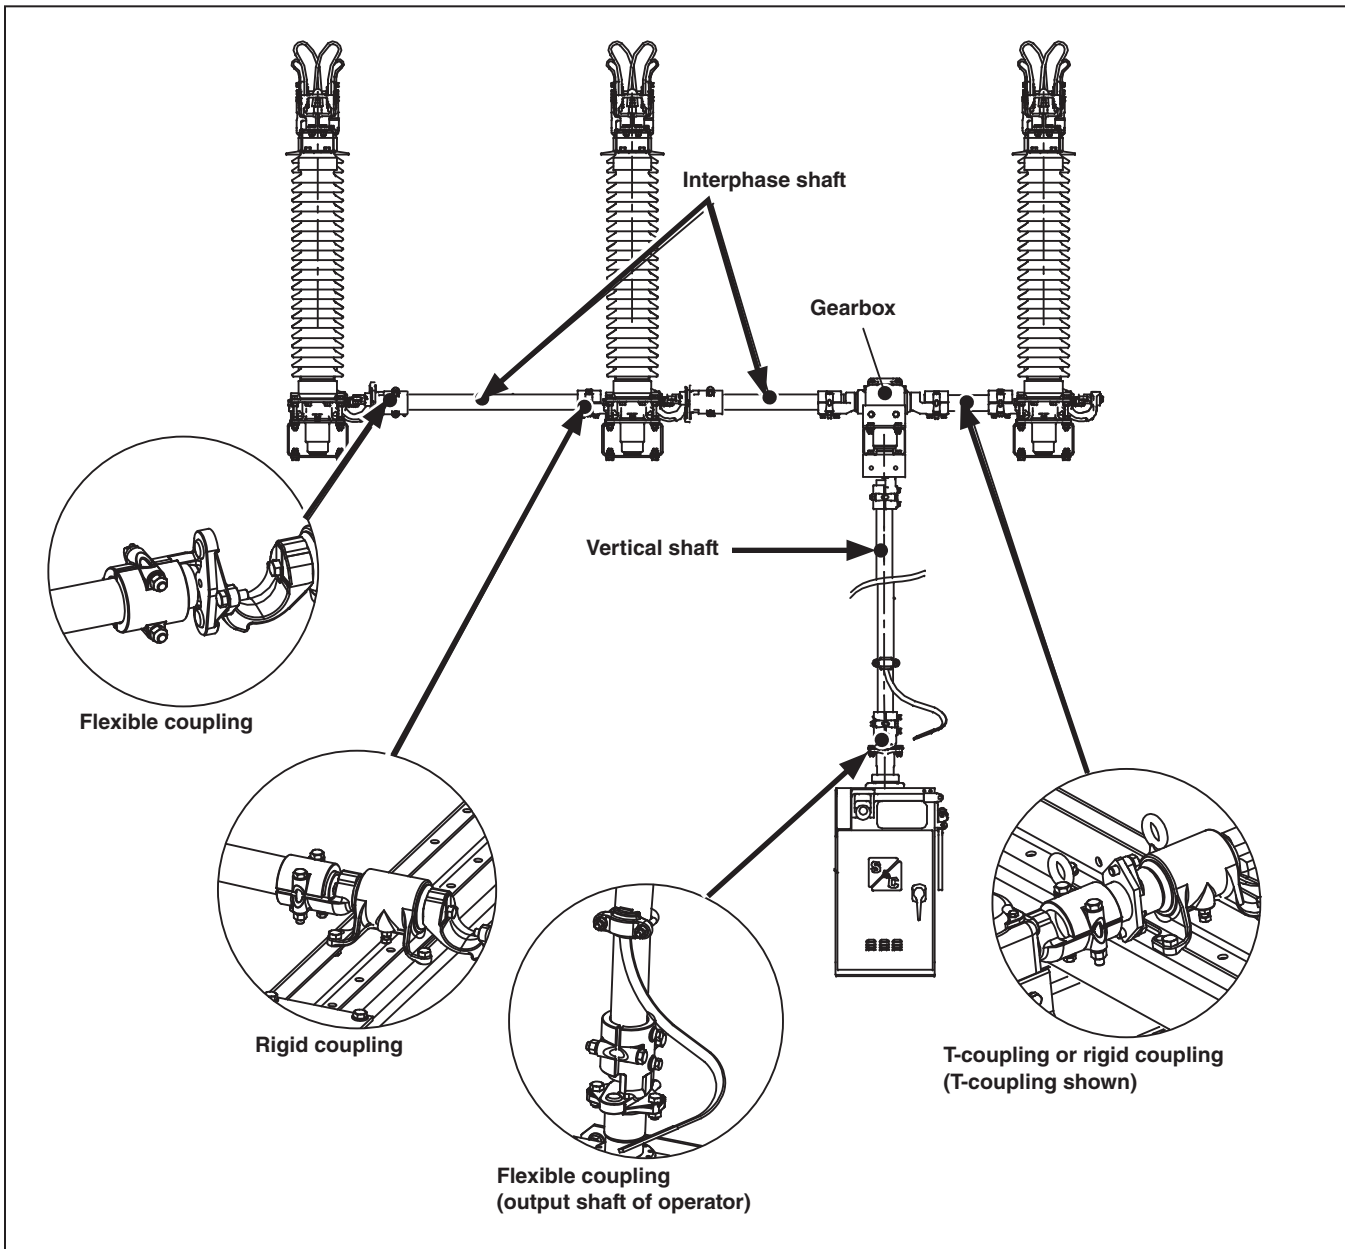

Figure 19. Drive train with coupling detail views.
The drive train comprises several sections of interphase shaft connecting the three pole-units to each other, a section of vertical operating shaft directly driven by the Mark VI CS-1A Switch Operator, and a gearbox connecting the vertical operating shaft to the interphase shaft. See Figure 19.
**Note:** Rigid couplings to and from the gearbox are factory-installed to the gearbox. For some structures, a short flanged section of interphase shaft is provided to make the connections between the gearbox and the surrounding pole-units. Refer to the reference drawing for specific details on the interphase shaft arrangement. See Figure 19 on page 16 for a typical drive train arrangement.